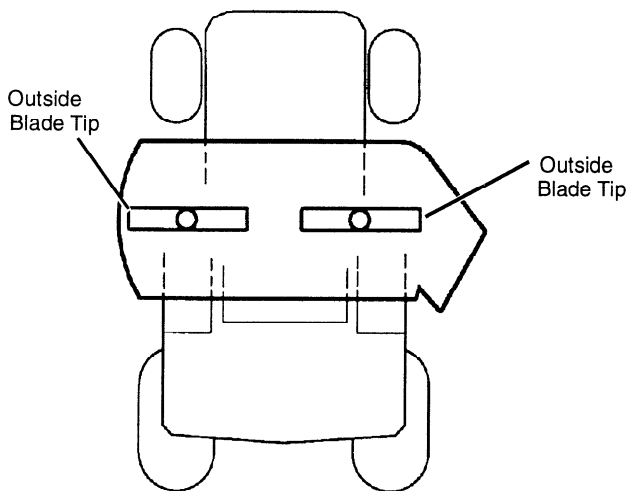

FIG. 43
- Measure height from level surface to outside blade tip on left and right blades. (See Fig. 43) Difference between measurements should not exceed **6 mm (1/4 in.)**.